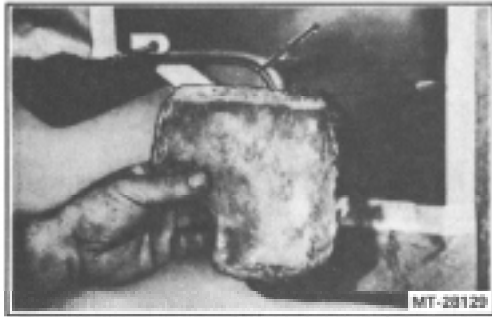

Figure 31. - Backing Patch
10. Allow the patch to harden; then pop it off (Figure 31) and remove the separating film.